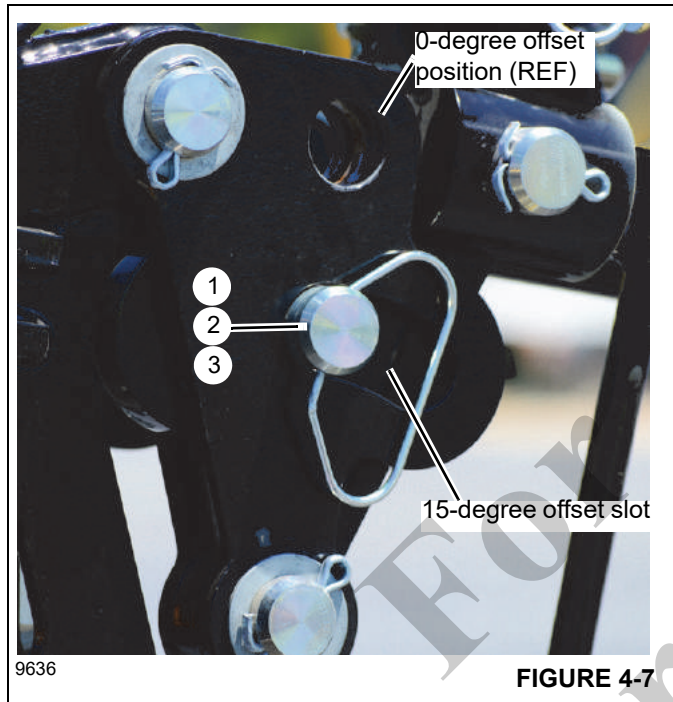

FIGURE 4-7
- 15-degree offset—The offset pins are installed in the 15-degree offset slot (Figure 4-7).
3. Remove the offset pins (1, Figure 4-7), washers (2), and lock pins (3) from the 0-degree position.
4. Install the offset pins (1), washers (2), and lock pins (3) in the slot for the 15° offset position. Secure with lock pin spring clips.
3. Remove the offset pins (1), washers (2), and lock pins (3) from the 15-degree offset position (Figure 4-7).
5. Install the offset pins (1), washers (2), and lock pins (3) in the 0° offset position (Figure 4-7). Secure with lock pin spring clips.